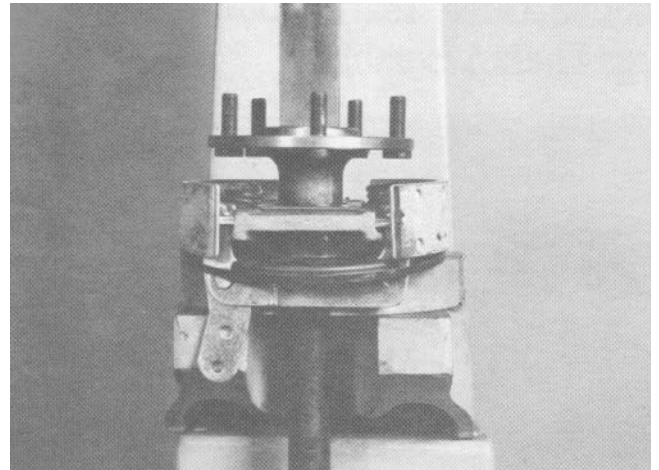

Figure 14
2. Pack the bearing with grease and press it onto the axle shaft (Fig. 14).